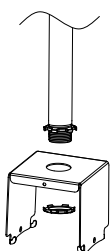

Figure 3
Step1. Mount the bracket on 3/4"NPT (Figure 3);